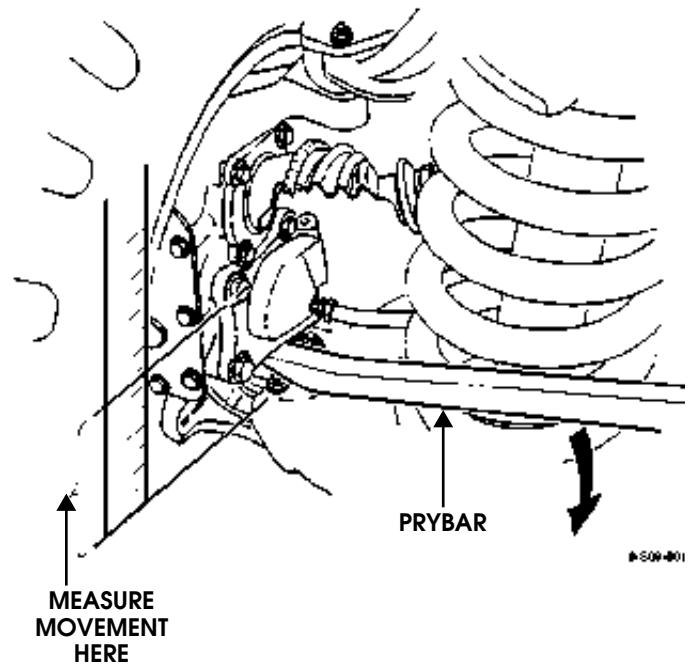

Figure 9-7: Lower Ball Joint Wear Check
2. Place prybar between lower arm at ball joint and geared hub and measure vertical play obtained by moving pry bar down (Figure 9-7). Maximum play should not exceed 1/8" (3.5 mm).